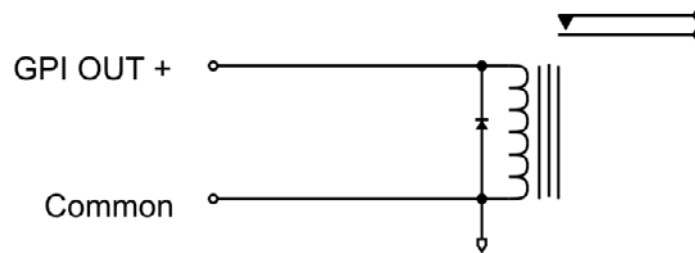

FIGURE 31. Low current relay
On the other hand, some relays (such as the Takamisawa AS5W-K) only require about *50mA*. If eight (8) of these relays are used, all eight (8) GPI outputs can be driven at the same time. In this case, the external drive transistor can be omitted, and relays can be connected as shown in Figure 31.